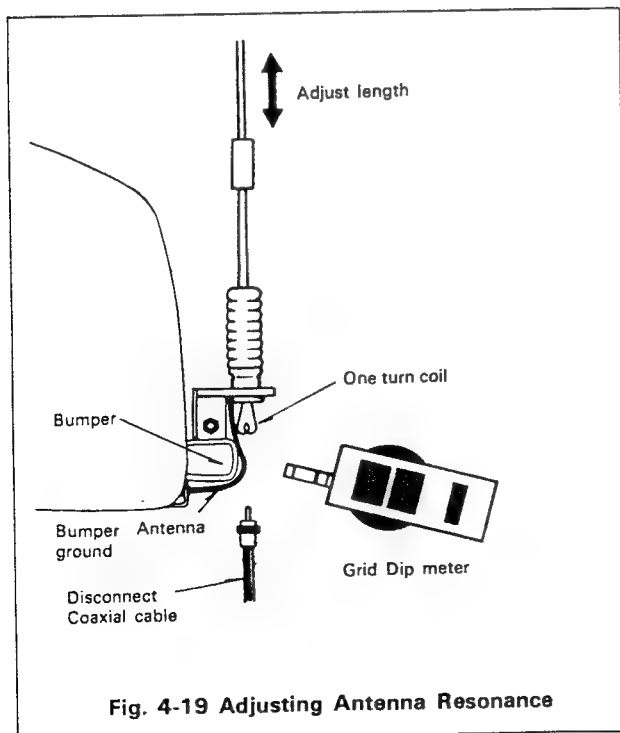

Fig. 4-19 Adjusting Antenna Resonance
HF antennas are larger, have more wind load, and are heavier than VHF antennas. A bumper mount is recommended for general use. The mount must be perfectly grounded to the car body since the body itself functions as the ground plane for the mobile antenna. (Refer to Fig. 4-19)
(3) Antenna Adjustment (Fig. 4-19)
The antenna should initially be adjusted with a dip meter, then impedance matching be checked with an SWR meter. (See Fig. 4-19)